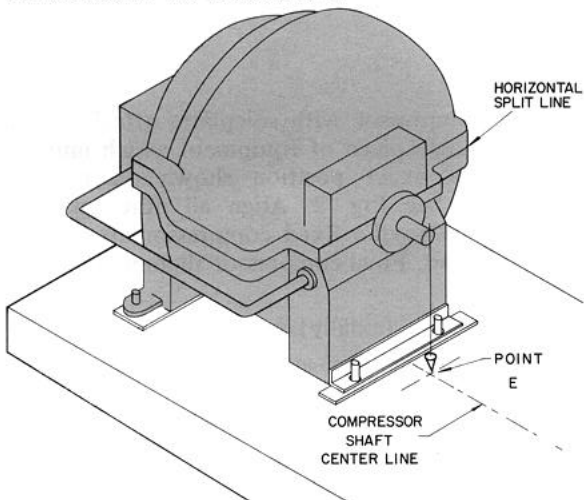

Fig. 3 – Leveling Compressor
- Figure 3 — Leveling Compressor
3. Level the compressor both axially (lengthwise) and transversely (sidewise) by transit sightings along the compressor horizontal split line (Fig. 3).
After shaft alignment has been completed, coupling hub face must be directly over scribed mark E (Fig. 3).